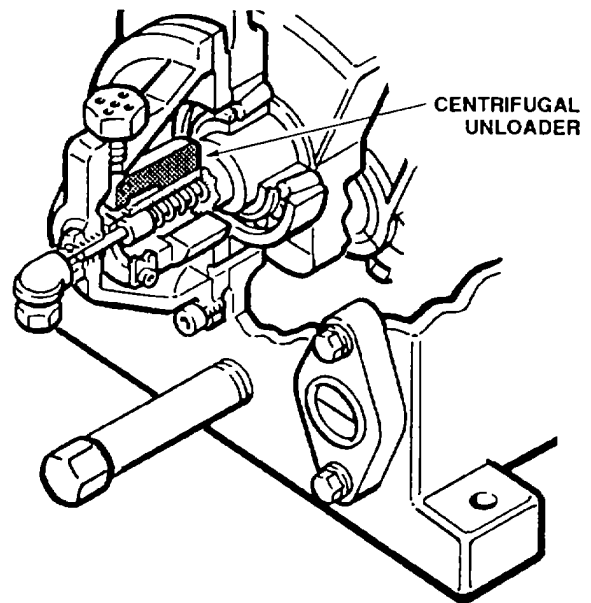

Figure 6. Centrifugal Unloader
The centrifugal unloader automatically bleeds pressure from the compressor pump head when the compressor shuts down. This feature eliminates back pressure in the pump, ensuring easier starting. See Fig 6.
- 2 The centrifugal unloader will bleed off pressure in the pump and transfer tubes See Fig 6. This is important because if air remained trapped in the pump, it would create back pressure which would make restarting the compressor difficult or impossible.